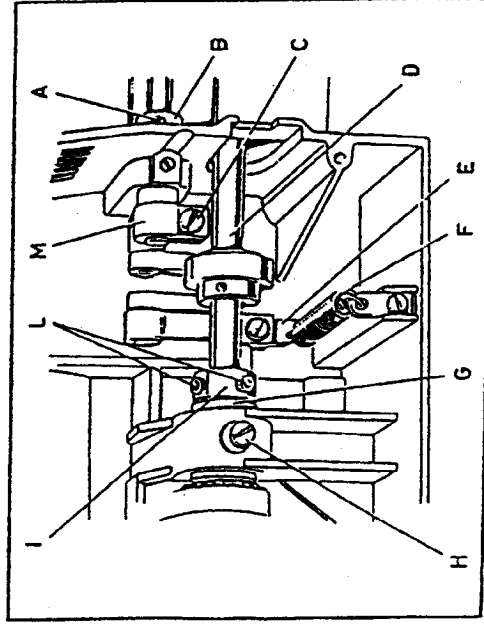
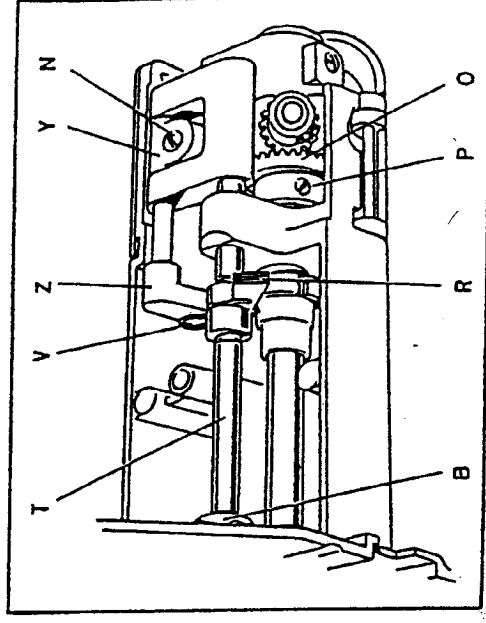

Fig. 20
Fig. 21
Disassembly (figs 20 and 21)
- loosen the two grub screws P of driving gear 0 (fig. 21);
- take off the two grub screws of ring I (fig. 20);
The driving gear 0 remains tied under the feed shaft T (fig. 21): if you want to replace it, it is necessary to disassemble shaft T first (see para. 24).
Assembly (figs. 20 and 21)
The driving gear 0 must have been put back in its place before mounting the feed shaft T (fig. 21);
- insert, from the side of the balance wheel, the lower shaft-balance wheel complete group, inserting subsequently: the first support of the base, the connecting rod of the feed dog remained in its place, the second support of the base and the driving gear O (figs. 20 and 21);
Disassembly (fig. 21)
- loosen screw C of junction M (fig. 20);
- insert from the exterior feed shaft T and then insert feed dog lowering lever R in it, ring B and, after the second support, also junction M (fig. 20);
- eliminate the axial play of the feed dog holder Y by tightening screw N a little (fig. 21);
- tighten a little screw C of junction M (fig.20).
- Tighten down screw C (fig.20) and screw N (fig.21);
- disconnect spring F from junction E (fig. 20);